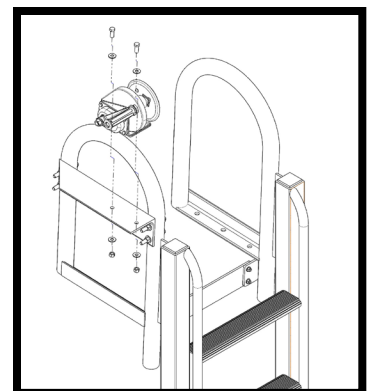

Figure 8
6. Align Winch mounting holes with Winch Bracket mounting holes and attach using hardware provided in Kit # 4 to complete Winch assembly. See Figure 8.